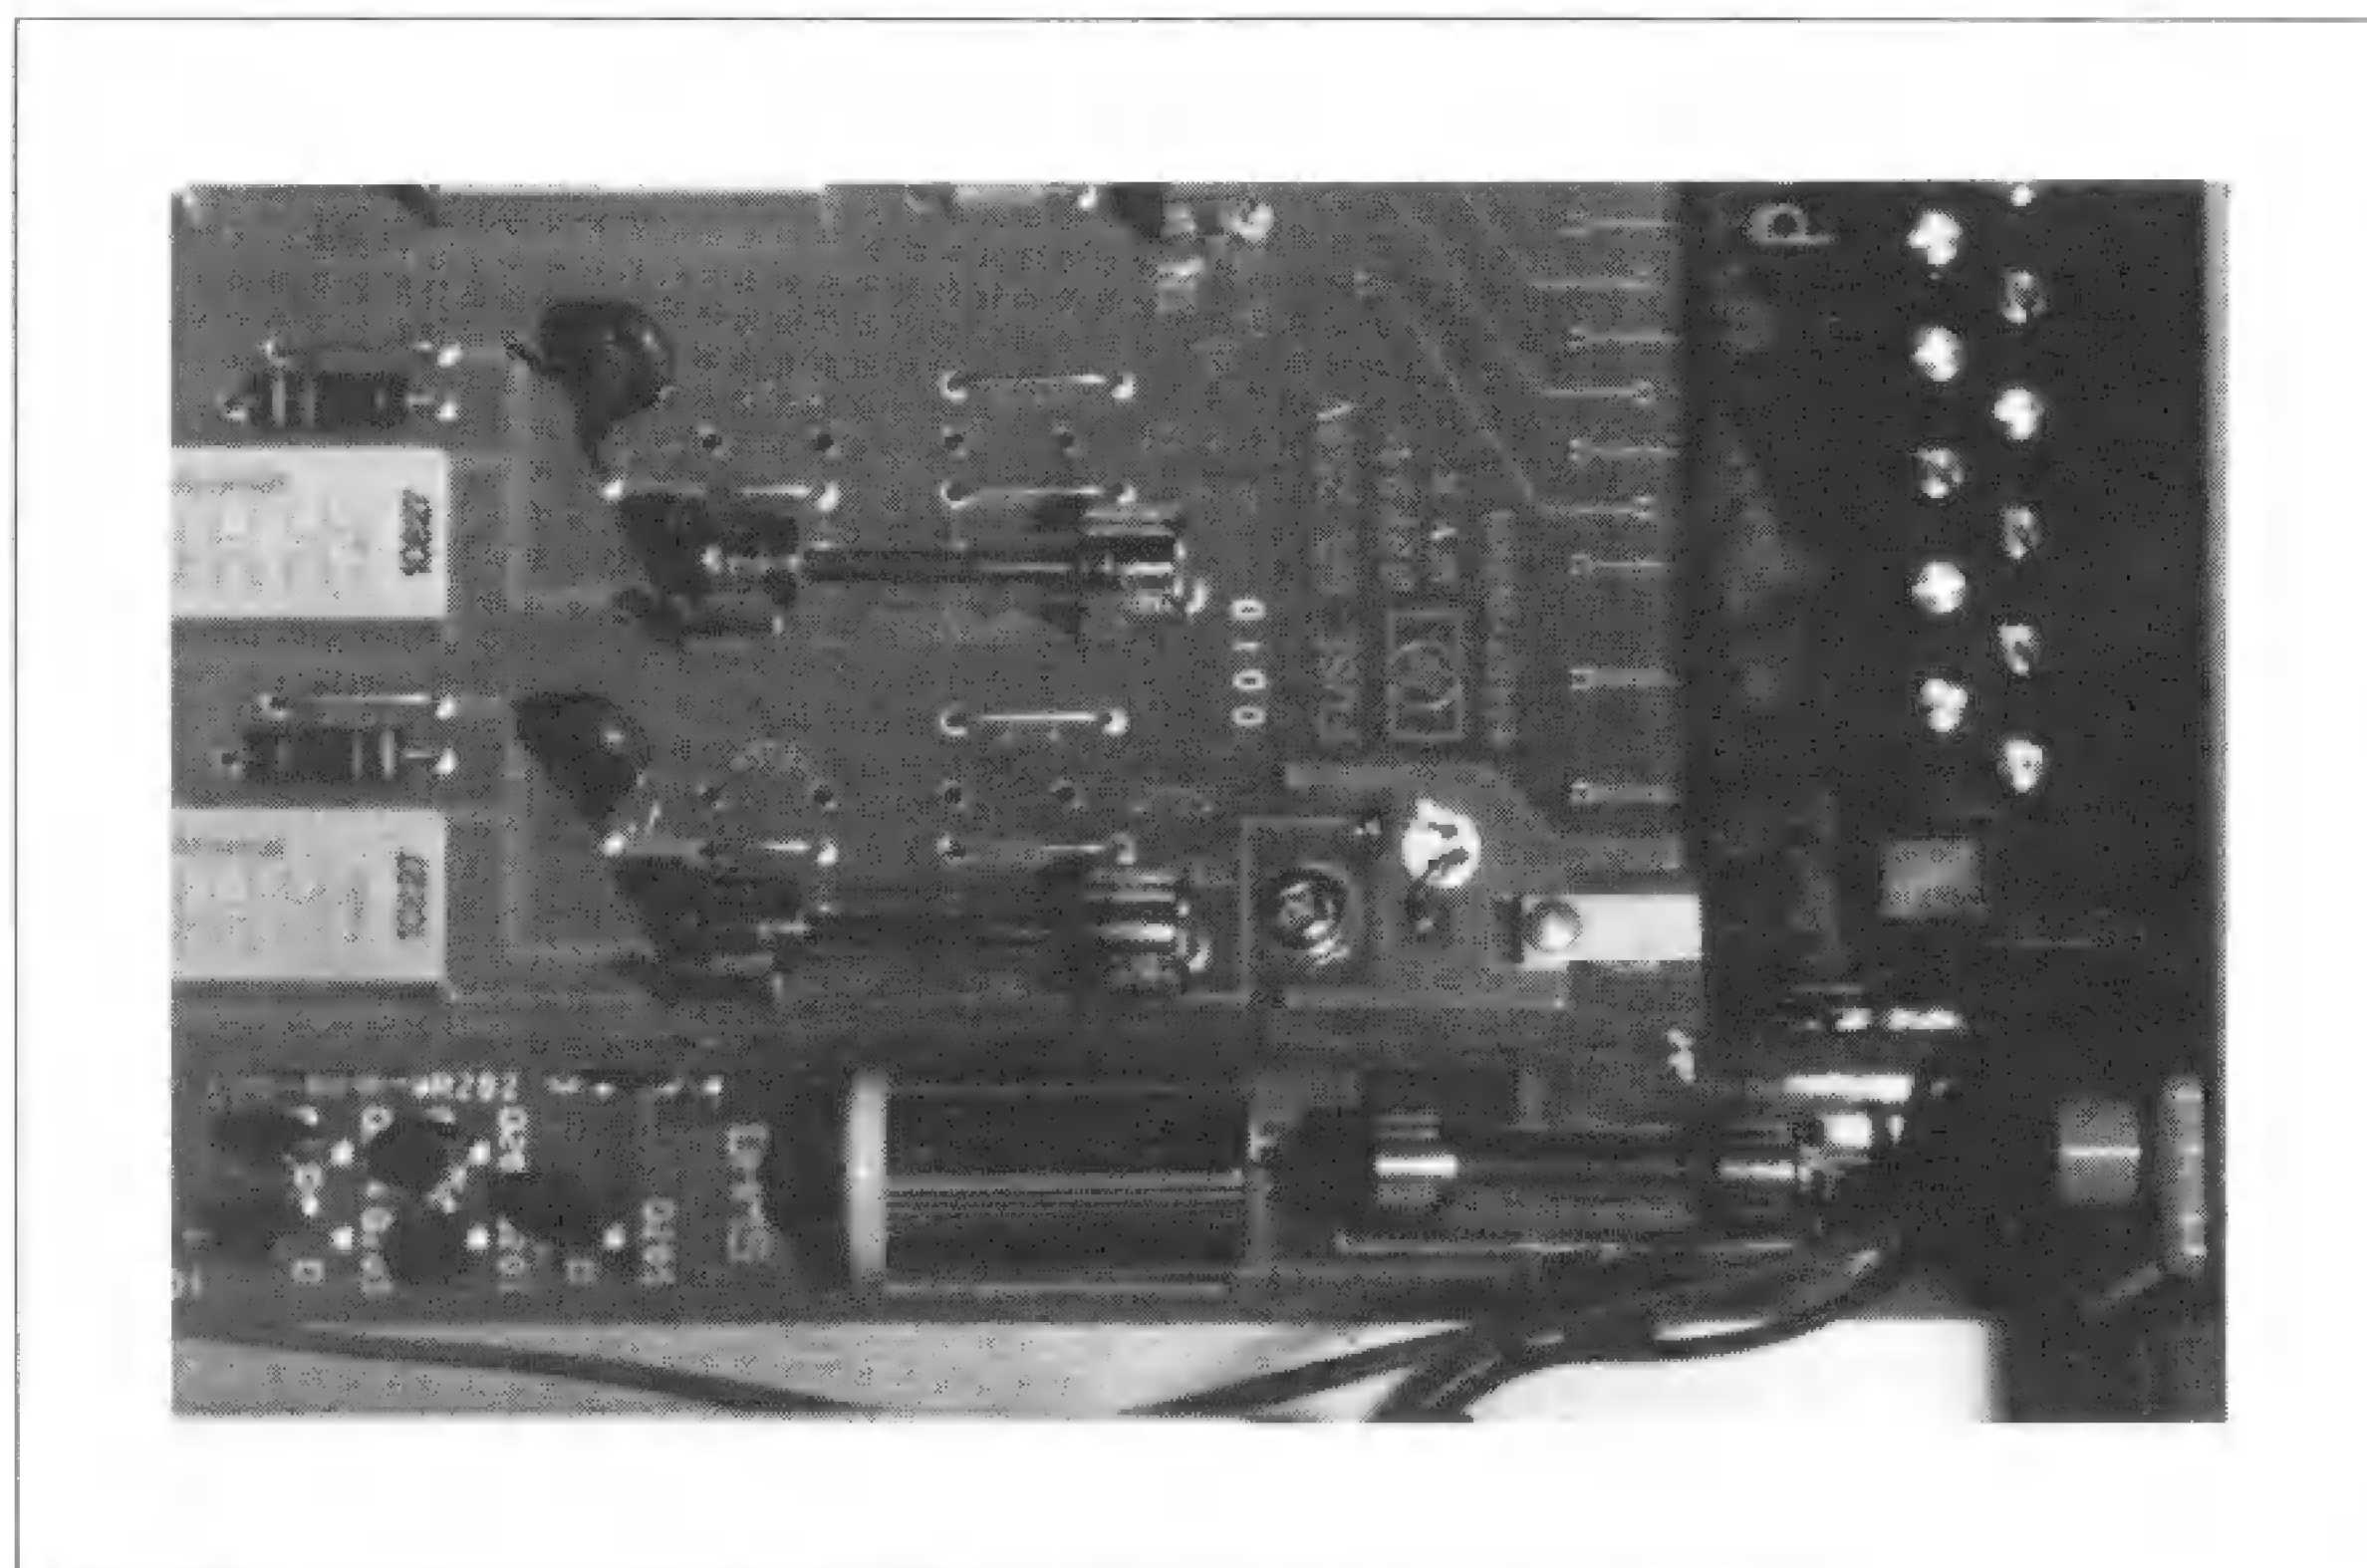

Figure 1-8-5. Remove Main Battery Fuse
d. Refer to Figure 1-8-5 and locate the battery fuse toward the right rear of the instrument. Remove it from its socket. Instead of removing the fuse, you can unplug the red wire from the battery. If this is done, make sure the wire is placed out of the way and away from the battery.